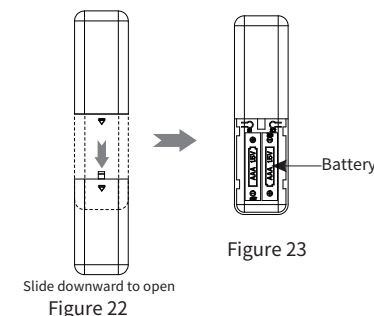

Figure 22
1. Slide open the battery cover on the back of the remote (Figure 22).